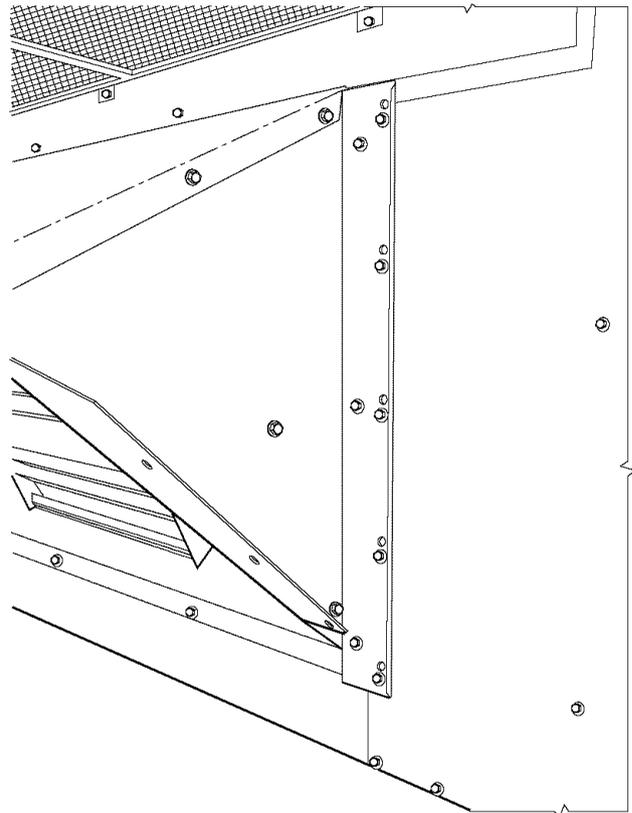

Fig. 23 — Bracket and Hood Positioning
4. With screws saved from Step 1, install brackets on each side of damper assembly. See Fig. 23.